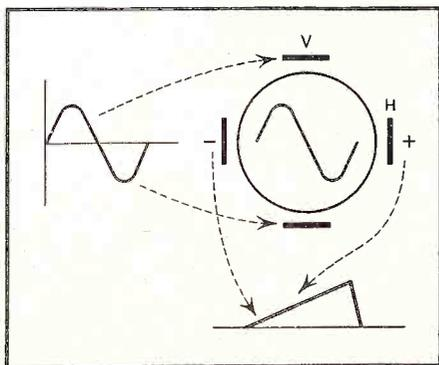

Fig. 5—Sine wave reproduction.
*Figure 5* shows the screen having an image representative of the a-c voltage which is on the vertical plates. This is done by sweeping the beam
increased until the waveform is almost traced out; then it must drop rapidly to zero so that the beam will return to the left and start the trace all over again. The type of voltage which will do this looks like a sawtooth as shown in *Fig. 5*.